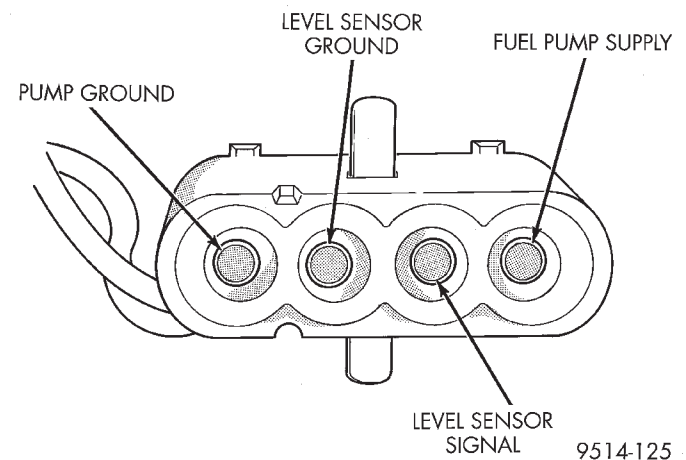

Fig. 27 Fuel/Pump/Level Sensor Electrical Connector
(4) Install level sensor wires in connector. Push the wires up through the connector and then pull them down until they lock in place. Ensure signal and ground wires are installed in the correct position (Fig. 27).